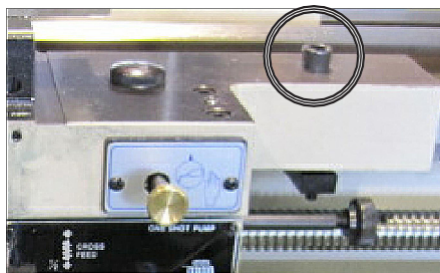

Figure 19. Carriage lock.
- Using a 10mm hex wrench, loosen the carriage lock (Figure 19) so the carriage is free to slide.